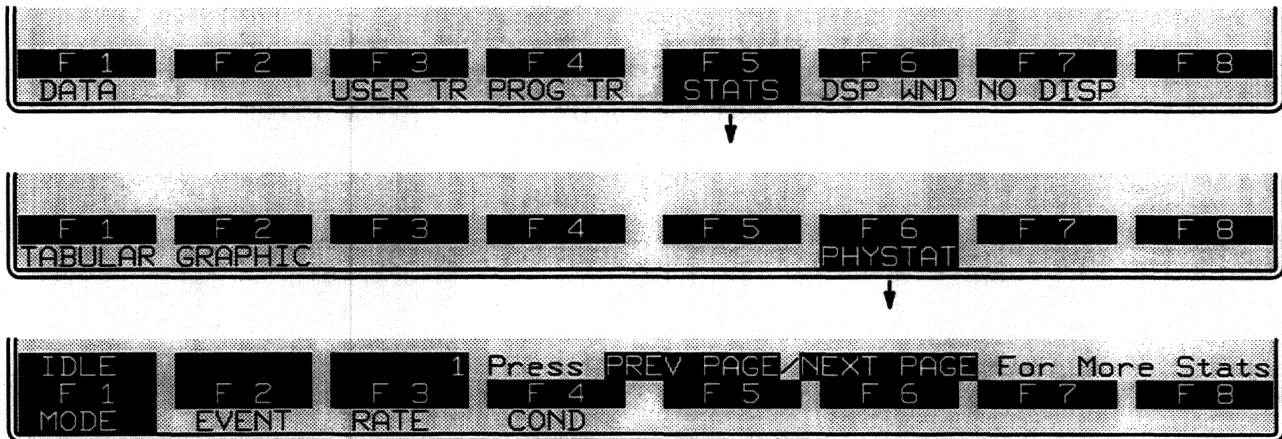

Figure 10-3 Top-level Physical Statistics softkey rack is used for error injection in Emulate mode.
To return to an application program from the standard statistics display, access the top-level rack softkeys: continue to press **⏏** until the top-level rack appears (see top row of Figure 10-3), then press the DSP WND softkey and the softkeys shown in Figure 10-2 will appear.
When in Emulate mode, the user may inject errors into the statistics accessed from the top-level STATS display. The error injection keys shown at the bottom of Figure 10-3 are then available to the user; see Section 11 for information on using these keys. If not emulating, the error injection keys (bottom rack of Figure 10-3) will not appear.
- Continue to press **⏏** until the top-level rack appears (see top row of Figure 10-3).
- Press **STATS** softkey, bringing up the second rack of softkeys shown in Figure 10-3.